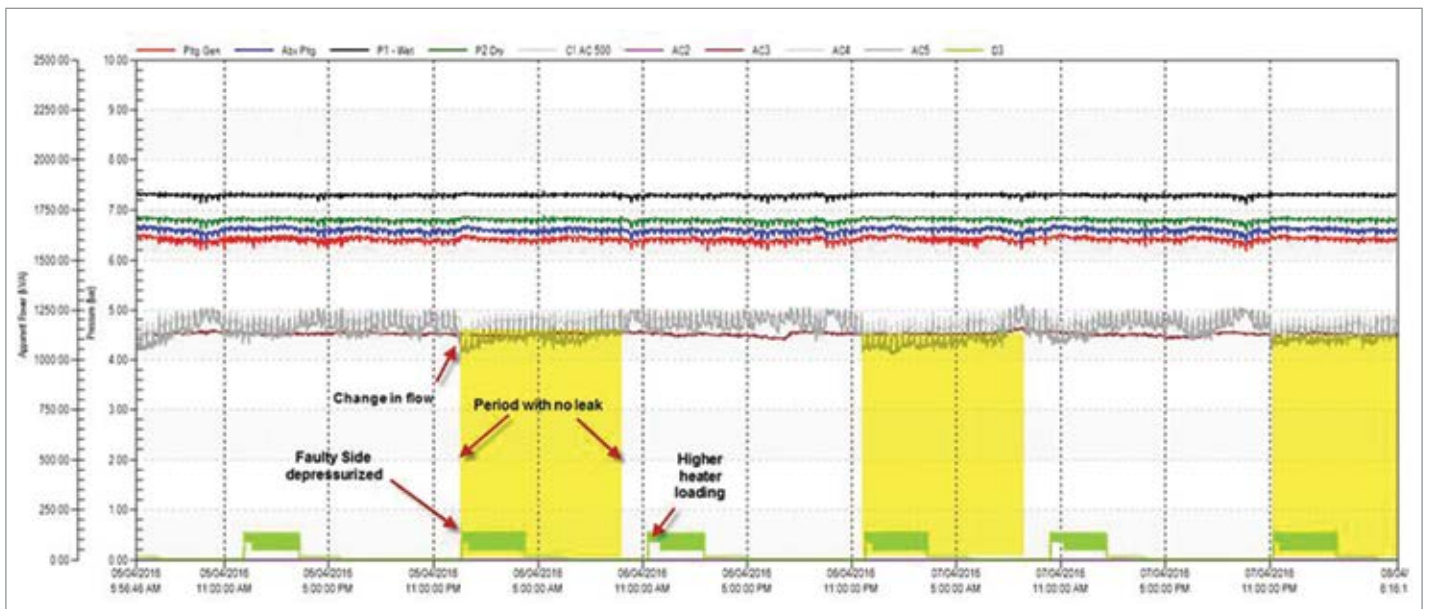

Figure 6. This graph shows the pattern of flows matching up with the heating cycle of a drying tower.
- One of the dryers was showing unbalanced regeneration cycles where one side requires considerably more heat than the other side. This is a sign of an internal leak. If the air compressor amp profile is examined closely (Figure 6) a pattern of flows can be seen matching up with the heating cycle of one of the dryer towers. Based on the amp change the estimated leakage flow